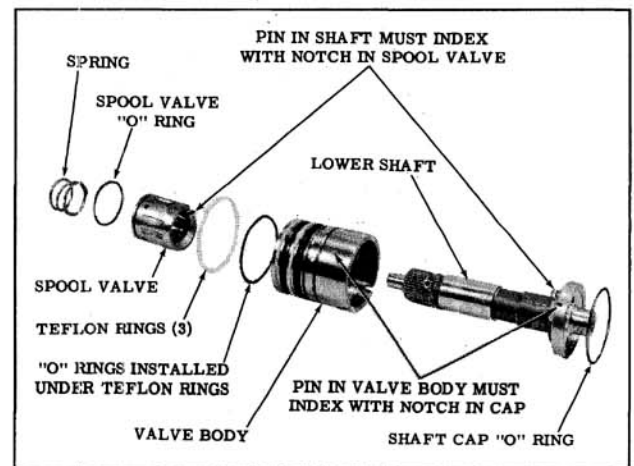

Fig. 8-56 Valve and Lower Shaft Assembly
### ASSEMBLY (Fig. 8-56)
3. Assemble the lower shaft assembly in the valve body so the notch in the lower shaft cap engages with the pin in the valve body. (Fig. 8-56) If necessary, tap the shaft cap with a plastic hammer until cap is seated in the valve body.